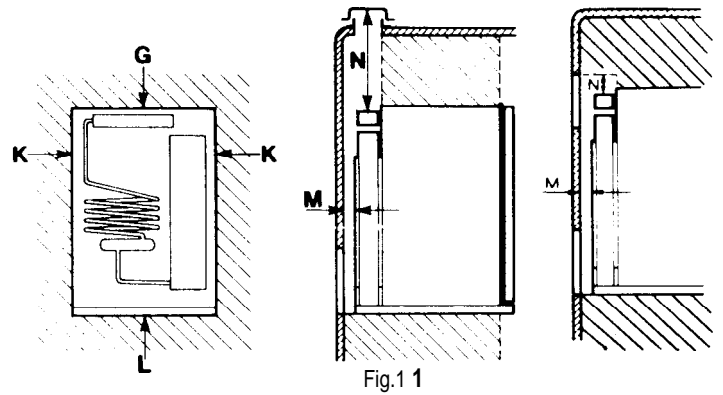
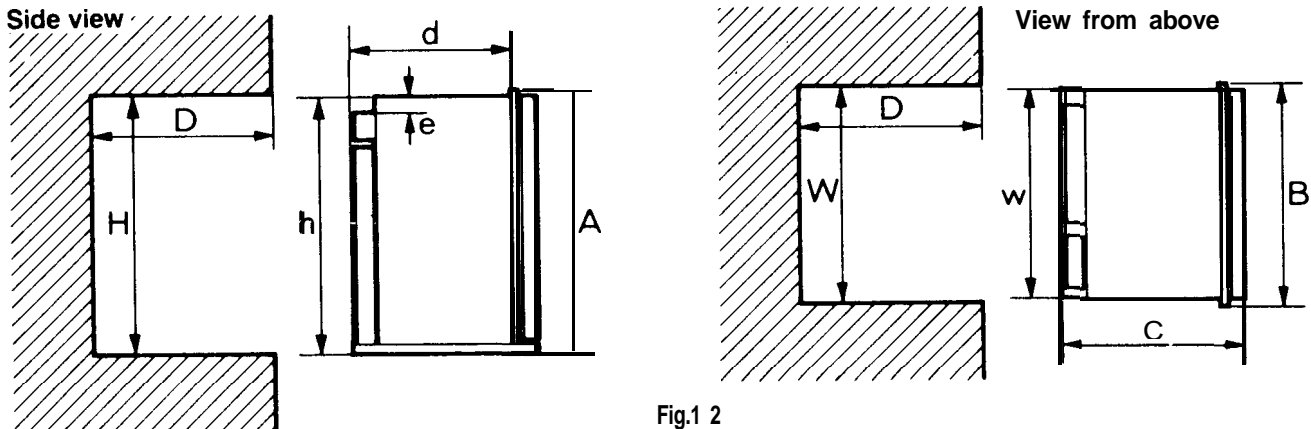

Fig.1 1
Fig. 2
5. Remove cover plate, see (46) in fig. 1, Open the gas valve by turning the knob A to position "GAS" without pushing the button C and D. Test that no gas comes through the jet, item 38. Use soapy water. Be careful not to damage the jet.
5. Remove cover plate, see (46) fig. 2 for RM2501 and (55) fig. 3 for RM2601/2801. Open the gas valve by turning knob A to position "GAS" without pushing the button C. The igniter shall not spark. Test that no gas comes through the jet, item 38. Use soapy water. Be careful not to damage the jet.
The refrigerator is fitted either with a piezo igniter (see fig.1) or an automatic reigniter (fig. 2 and 3) which does not normally need any maintenance. If the igniter does not work properly contact an authorized service point